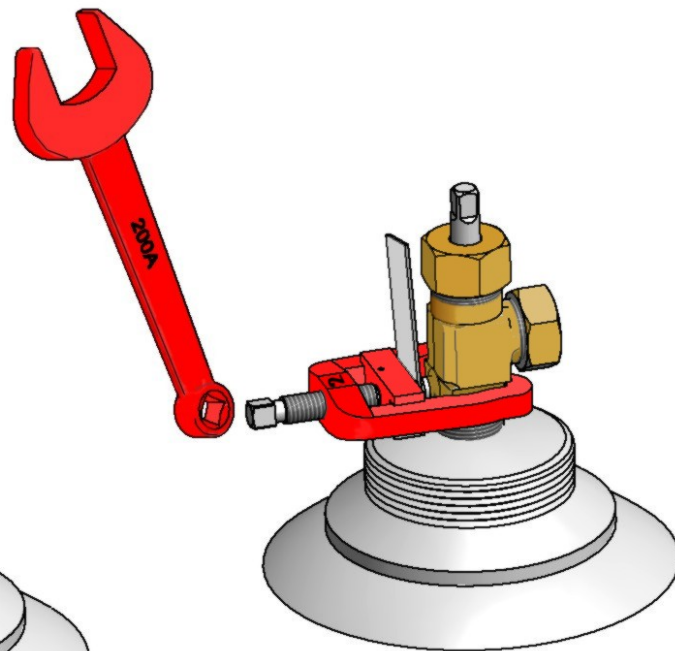

Figure 3.8
Saw off fusible plug flush with valve body, file the surface smooth and apply DEVICE 2 (Clamp Assembly, Figure 3.8) (See Section 4 or 5 for instructions).
3.8 LEAK: FUSIBLE METAL OF PLUG OR POURED FUSIBLE PLUG (FIGURE 3.8)